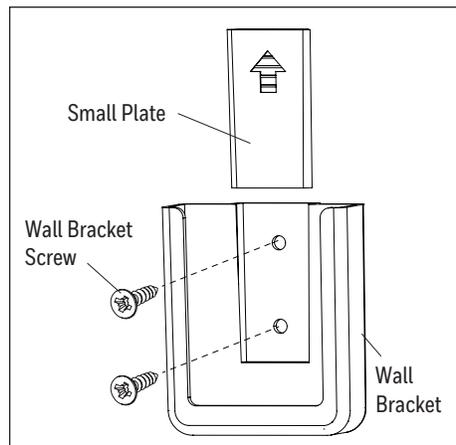

Figure 5.8
- Remote control comes equipped with a wall bracket. If you wish to install the wall bracket, remove the small plate to expose the screw holes. Insert wall bracket screws through holes and into wall, then cover with the previously removed small plate. The remote can be stored in the wall bracket for easy access (Figure 5.8).